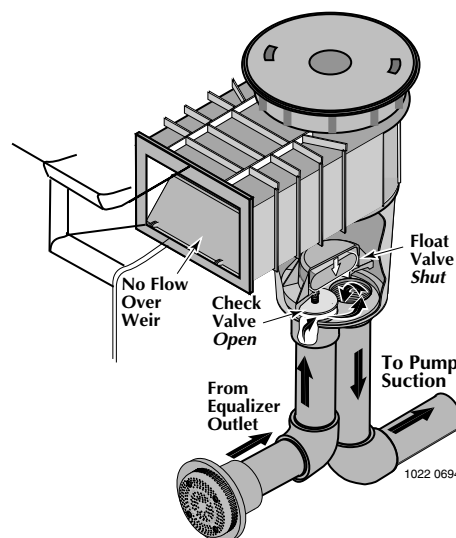

Figure 2: Equalizer operation; float valve shut, check valve open.
- Skimmers **with** float: If skimmer is equipped with float valve, adjust trimmer plate on bottom of float. To reach trimmer plate, remove cover, basket, and float valve (See Figure 2, below). Swing trimmer plate to one side to increase trimmer port size (more flow through skimmer, less flow through main drains); reduce port size for less flow through skimmer and more flow through main drains.